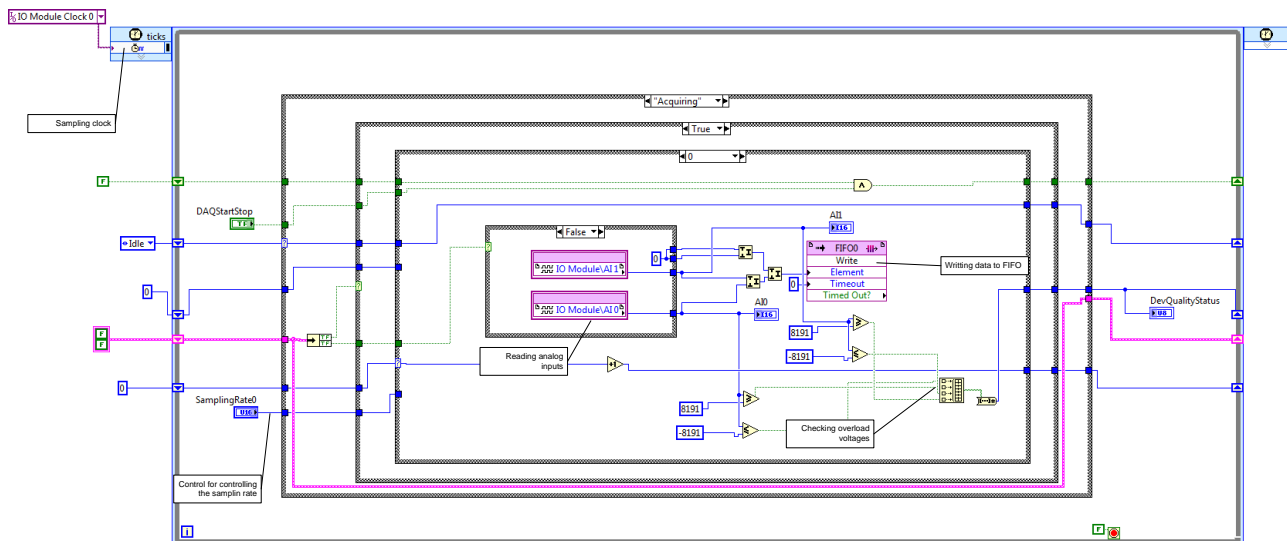

Fig. 33: Example of the implementation of data acquisition with LabVIEW for FPGA
13. A set of data acquisition channels is sent using DMAs. All the channels that are grouped in a DMA must have the same sampling frequency. Therefore, there will be as many sampling rate controls as DMAs (see Fig. 33).
{3,4,2}, which indicates that DMA 0 uses 3 channels, DMA 1 uses 4 channels, and DMA 2 uses 2 channels. This rule is a limitation because the user cannot change the number of elements included in the DMA stream during execution. Fig. 33 shows an example of how to define only one DMA channel with 2 channels in the stream.